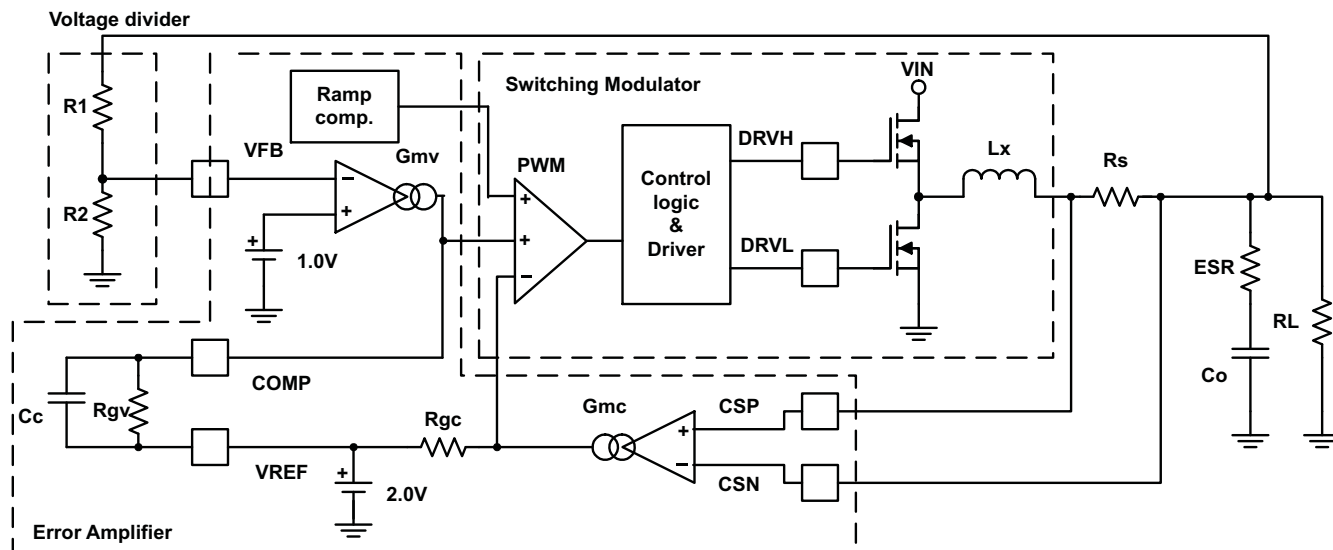
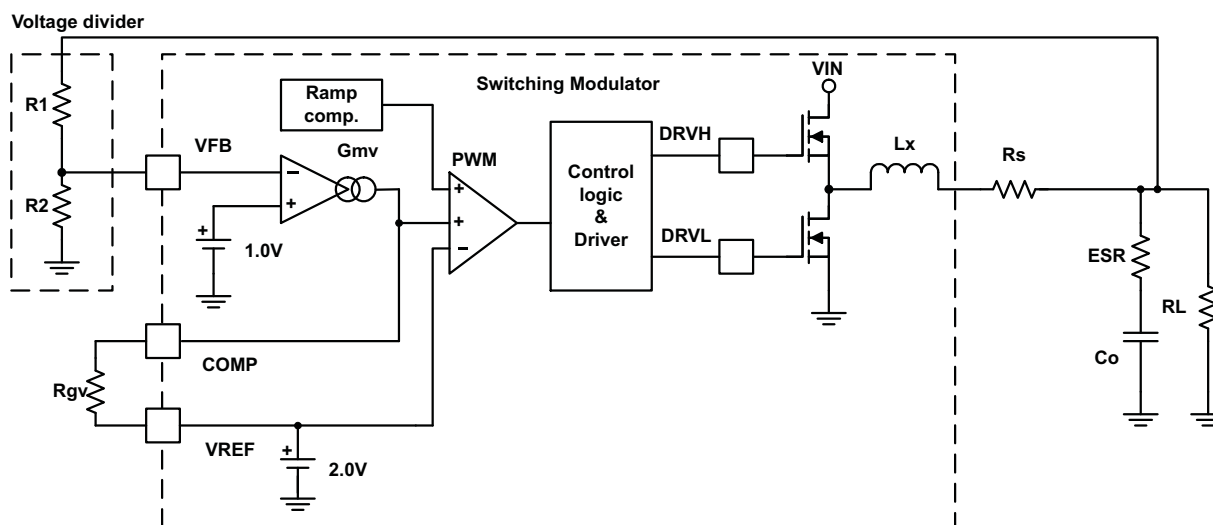

图 44. Simplified Current Mode Functional Blocks
图 45. Simplified D-CAP Mode Functional Blocks
A buck converter using the TPS51220A-Q1 consists of linear circuits and a switching modulator. 图 44 and 图 45 show basic scheme.
1. **Determine output voltage dividing resistors.** (R1 and R2: shown in 图 44) using 公式 7 .